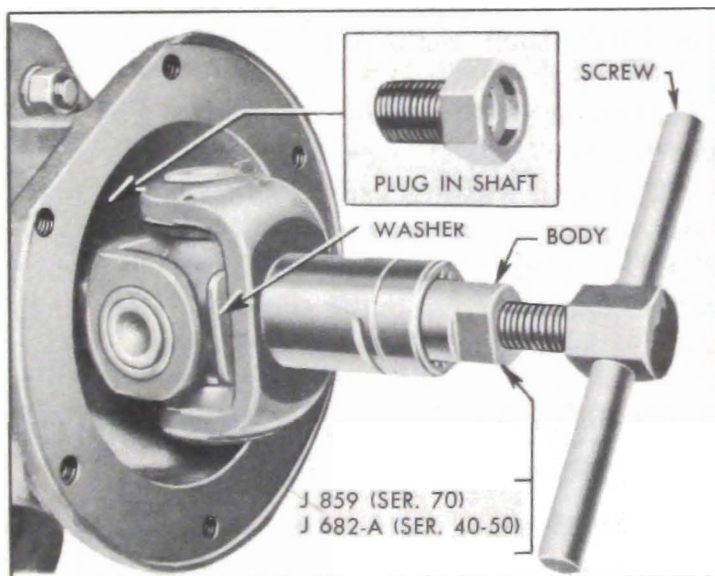

Figure 4-48—Removing Universal Joint with Puller J682-A
16. Remove retaining bolt and washer then pull universal joint from main shaft, using Puller J 682-A. To use the puller, install the pressure plug in transmission main shaft, insert puller body in universal joint rear yoke and install "C" washer in groove in puller body on front side of yoke, then turn screw handle clockwise. See figure 4-48. Remove universal joint spacer from main shaft.
4. Remove retaining bolt and washer, then pull universal joint from main shaft, using Puller J 859-A. To use puller, install the pressure plug in transmission main shaft, insert puller body in universal joint rear yoke and install "C" washer in groove in puller body on front side of yoke, then turn screw handle clockwise. See figure 4-48.